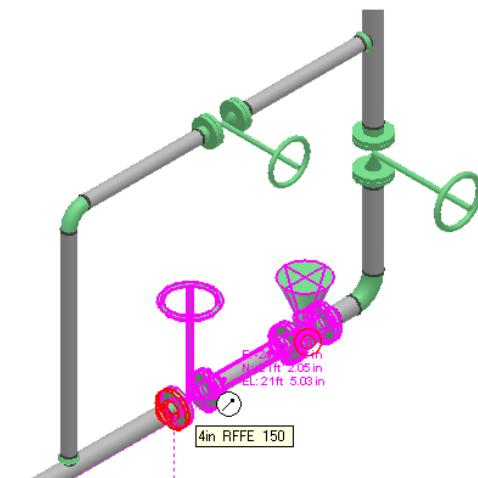

Figure 12.21: Origin of the Move Vector
9. Select the gate valve **port1** as the origin of the move vector, as shown in Figure 12.21.